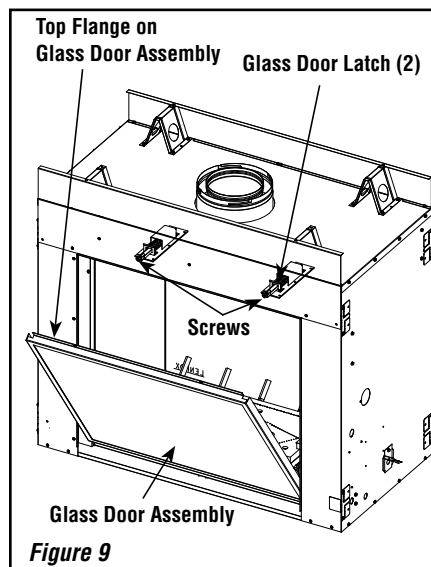

Figure 9
Removing Glass Doors, Mesh Pull Screens, and Modesty Panel (see Figure 9)
- a) See **Figure 9**. While holding the top of the glass door frame in place, use a #3 Phillips screwdriver to remove the two (2) screws securing the door frame to the two (2) door latches.
- b) Carefully tilt the top of the glass door frame away from the unit (as shown in **Figure 9**), and then lift the door assembly up and out of the lower track.
Installing Glass Doors, Mesh Pull Screens, and Modesty Panel (see Figure 9)
- b) Position the door in front of the firebox opening, with the top of the door held away from the fireplace (see **Figure 9**).
- d) Using a #3 Phillips screwdriver, fasten the door frame to the door latches with the two (2) latch screws. The latches should pull forward to engage the door frame.